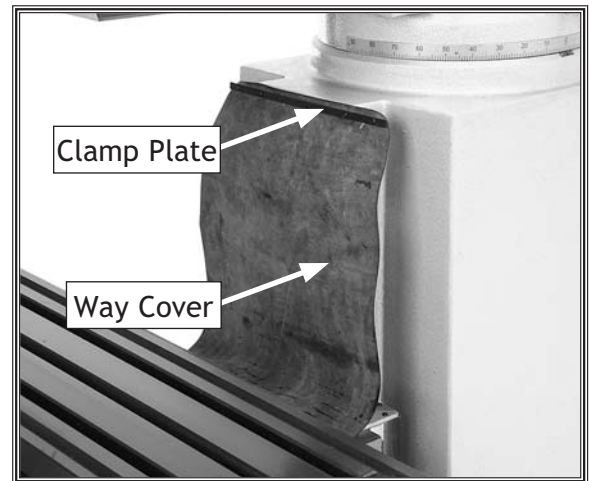

Figure 15. Milling machine way cover.
1. Slide the M5-.8 button head screws through the clamp plates (see **Figure 15**).